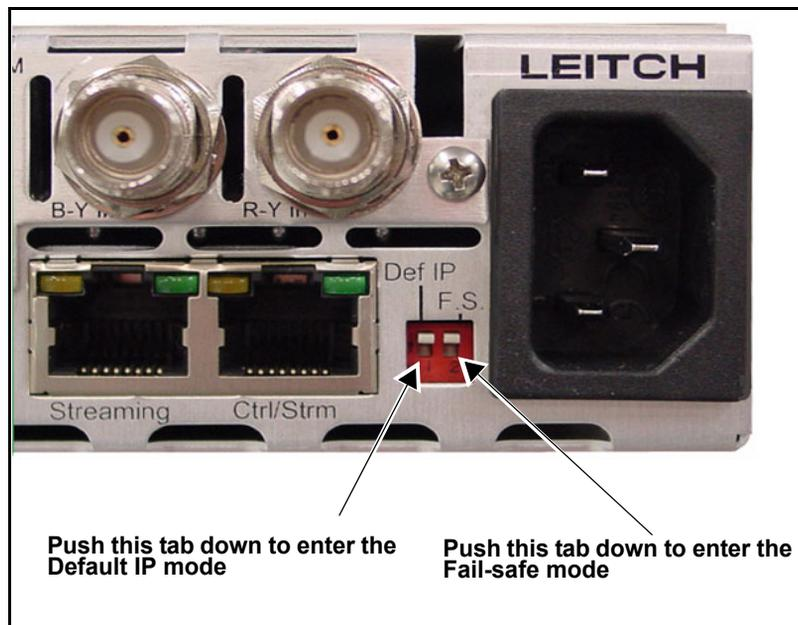

Figure B-10. Location of Def IP and FS DIP Switches
1. Push both **Def IP** and **F.S.** (Fail-safe) DIP switches at the back of the X75 unit to the down position, and then re-power the unit (see Figure B-10).